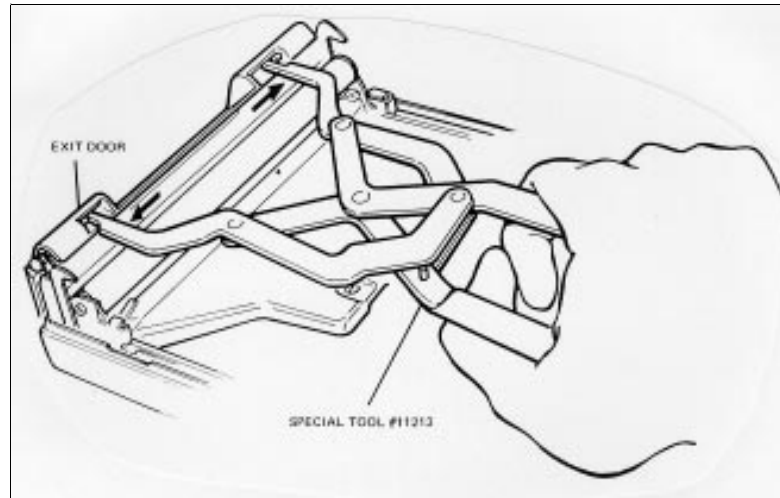

Figure 5-22. Removing Exit Door Pivot Pins
- 2) Using exit door remover/insertor tool #11213, pry out friction-held door pivot pins (figure 5-22) and remove the door.